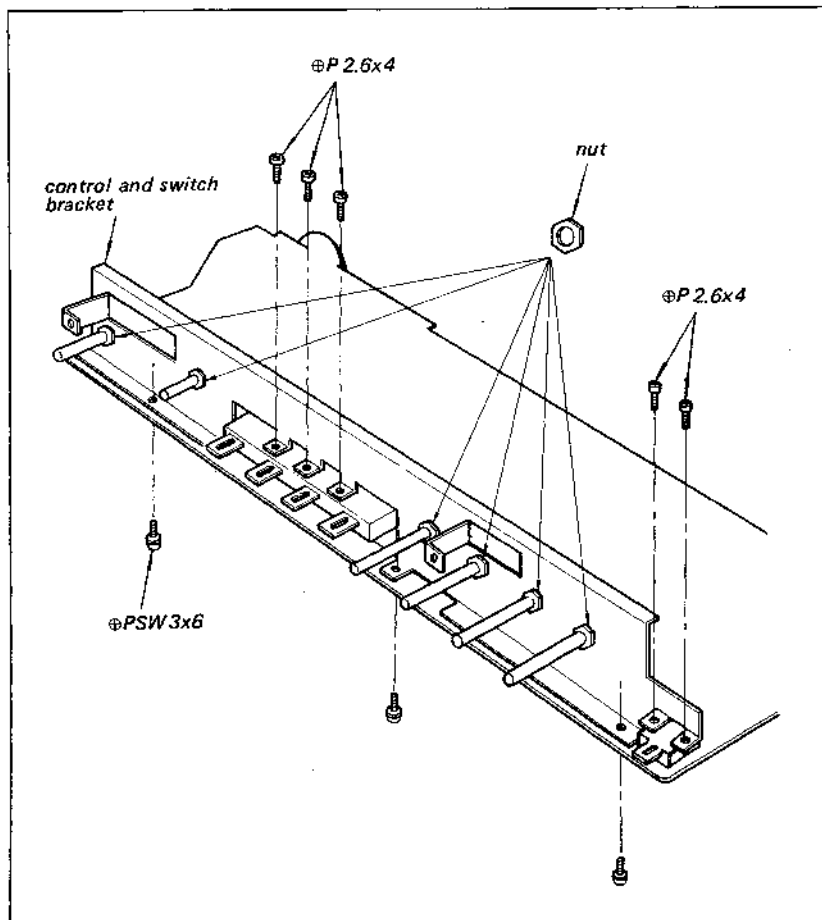

Fig. 2-12. Control and switch bracket removal
4. Remove the control and switch bracket after taking out the eight screws and the six nuts shown in Fig. 2-12.